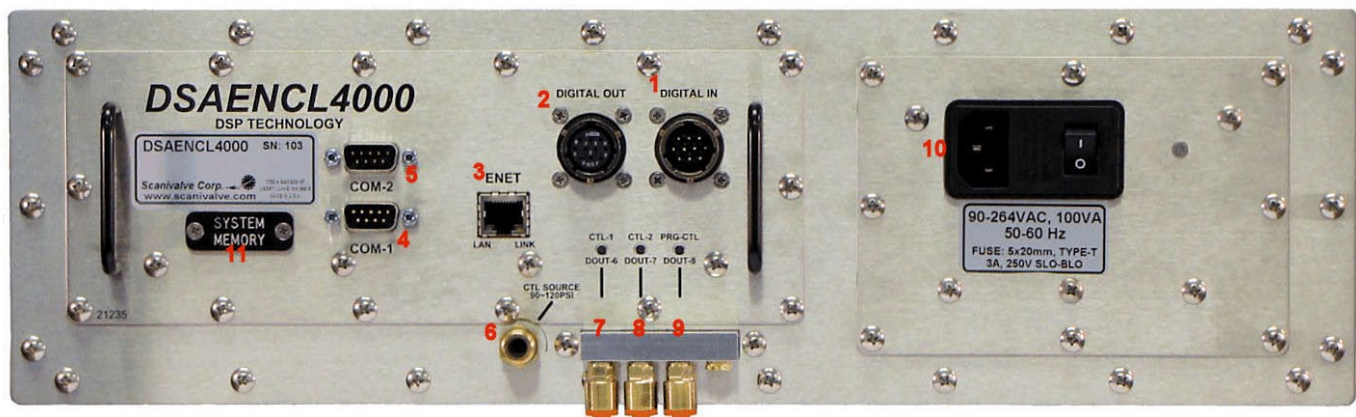

**FIGURE 2.4 - DSA3016/16DPx FRONT ACCESS, DSA3016/8DPx FRONT ACCESS, DSA3016/8DPx REAR ACCESS**
For differential pressure measurement applications, the DSA3016 can be configured with eight (8) or sixteen (16) differential pressure transducers. Like the DSA3016/16Px, each group of transducers has a dedicated calibration valve that allows the input pressures to be blocked off during any calibration, including a zero offset calibration (CALZ). Figure 2.4 depicts the front panels for a: DSA3016/16DPx Front Access, DSA3016/8DPx Front Access, and DSA3016/8DPx rear access. The DSA3016/16DPx configuration is only available as a front access with 1/16" Swagelok® fittings.